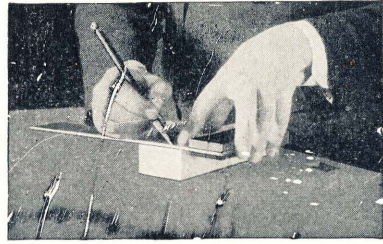

Fig. 16. Squaring the end surface.*
- d. Mark "number three". This is the working end (Fig. 16)